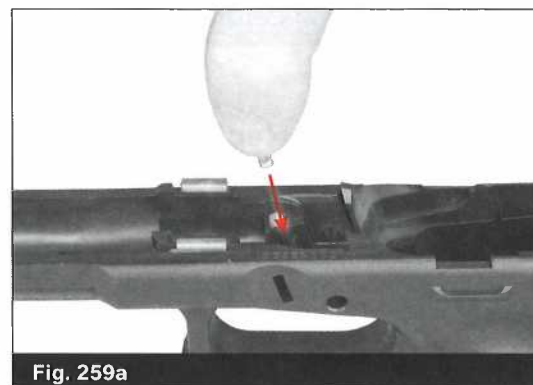

Fig. 259a
- Insert the slide lock spring into its area. (Fig. 259a)